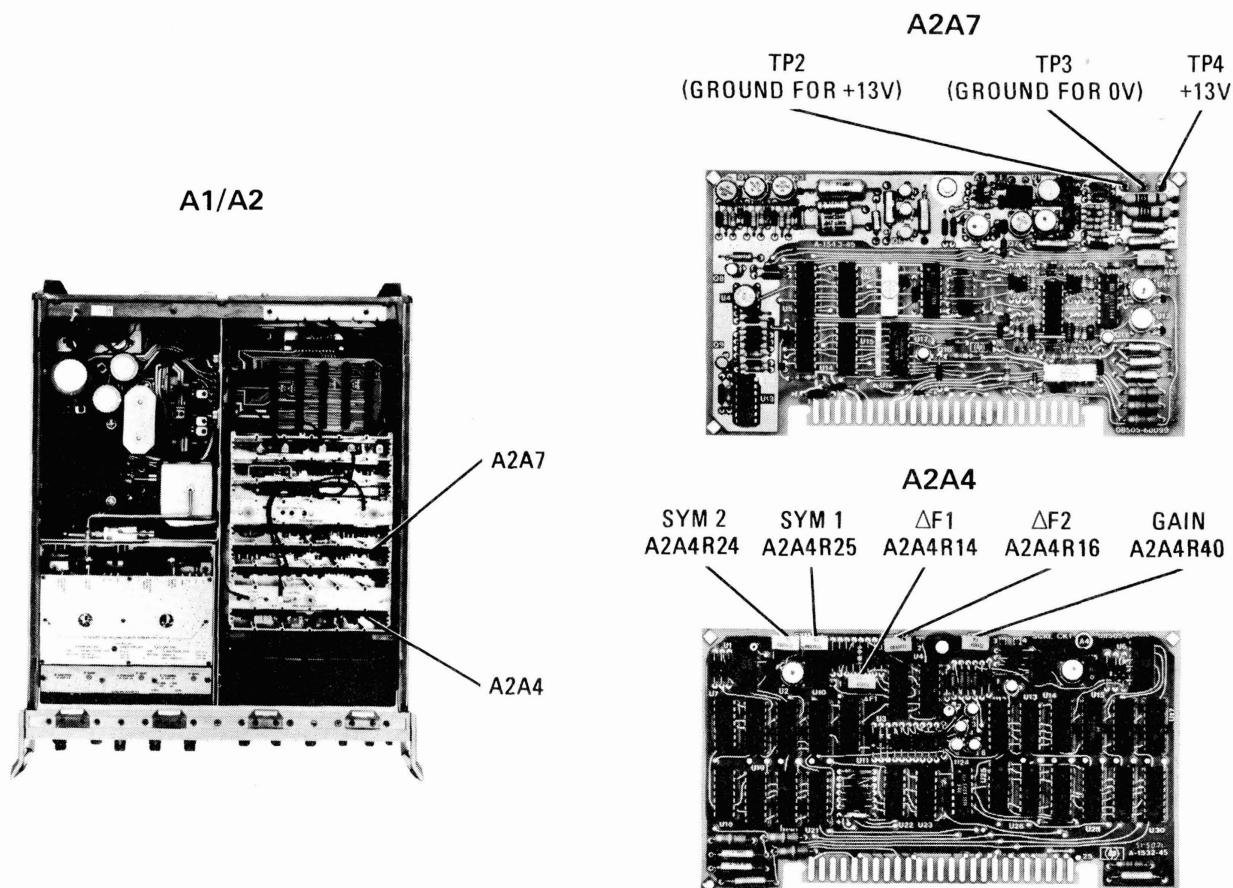

Figure A5-12. A2A4 Scaling Circuit and Sweep Control Test Points on A2A7
- d. On frequency Control, set CW FREQUENCY to 1300 MHz and CW $\pm \Delta F$ to 000.0 MHz. Set both FREQUENCY VERNIER controls fully counterclockwise. Connect DVM to A2A4TP3 and adjust "GAIN" control A2A4R40 for -13.000 Vdc ± 0.002 Vdc (Figure A5-12).
- f. On A2A7, connect jumper from A2A7TP2 to ground (Figure A5-12). Adjust "SYM 1 (START/STOP)" control A2A4R25 (Figure A5-12) for -12.000 Vdc ± 0.002 Vdc.